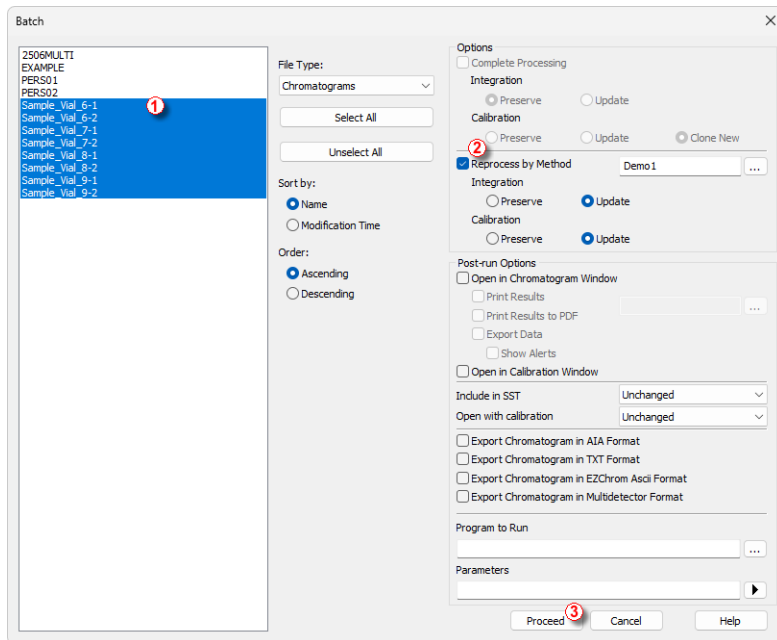

Fig. 19: Batch dialog with selected chromatograms
- Select the files to be reprocessed in the left part of the dialog **1** (Fig. 19 on pg. 32.); multiple files can be selected by left-clicking them while holding the **Ctrl** or **Shift** key. For the demonstration, select all files with the names SAMPLE\_VIAL\_X-Y in the DATA directory to be reprocessed, check the *Reprocess by Method* **2** checkbox, select the method to be used for the reprocessing, and in *Calibration* part of the Options select the *Update*. Click the *Proceed* **3** button. All the selected chromatograms will now be linked to the calibration based on the current method.